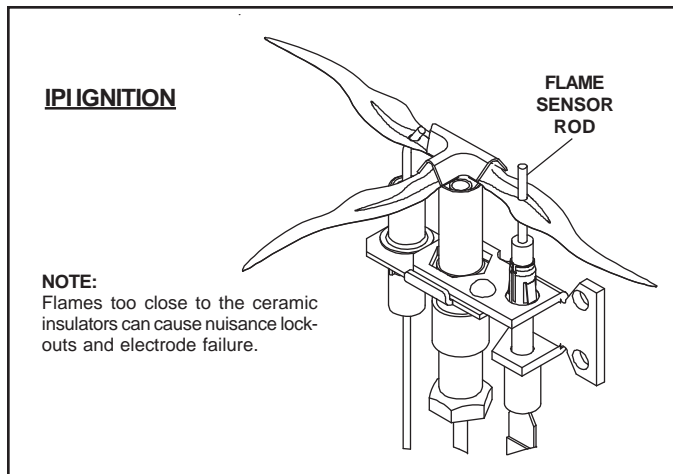

Figure 12.1 IPI Ignition
- Bend top retaining tab of grate shipping support into vertical position (see Figure 12.1).